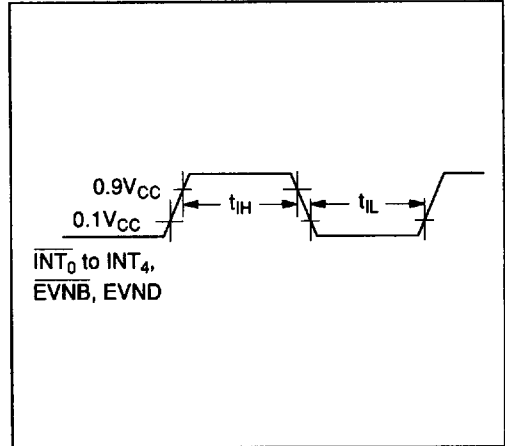

Figure 112 Interrupt Timing
5. Refer to figure 112. The t_{cyc} unit applies when the MCU is in standby or active mode. The t_{subcyc} unit applies when the MCU is in watch or subactive mode.